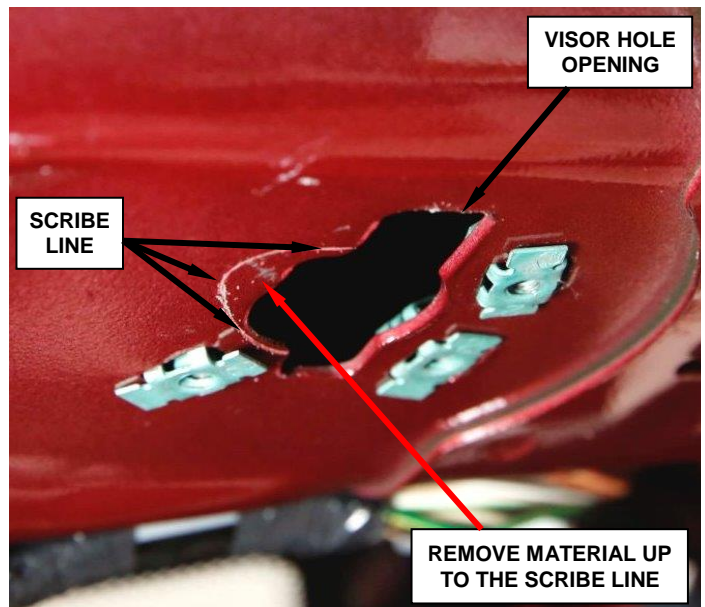

Figure 12 – Scribe Mark (right side shown)
31. Remove and save the left template. Verify that the scribe mark is visible (Figure 12).